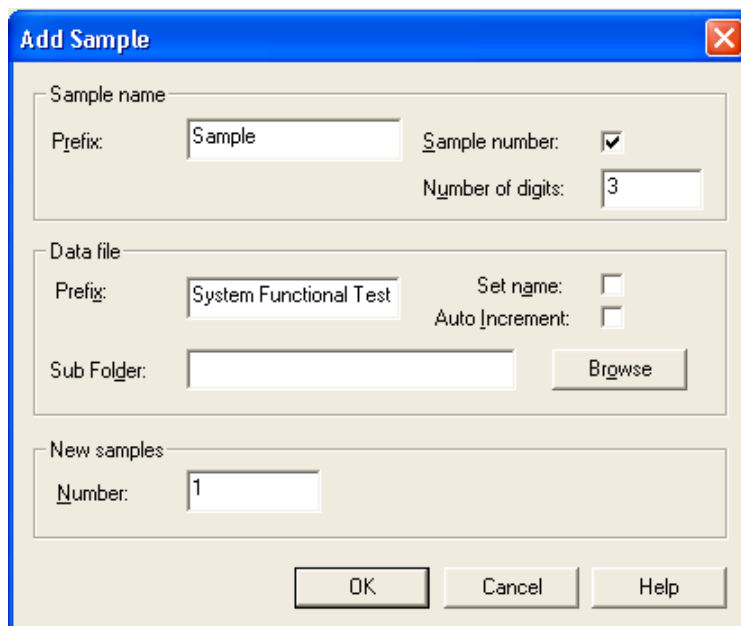

Figure 1-24 Add Samples dialog—System Functional Test
2. Build the acquisition batch, as shown in Figure 1-24.